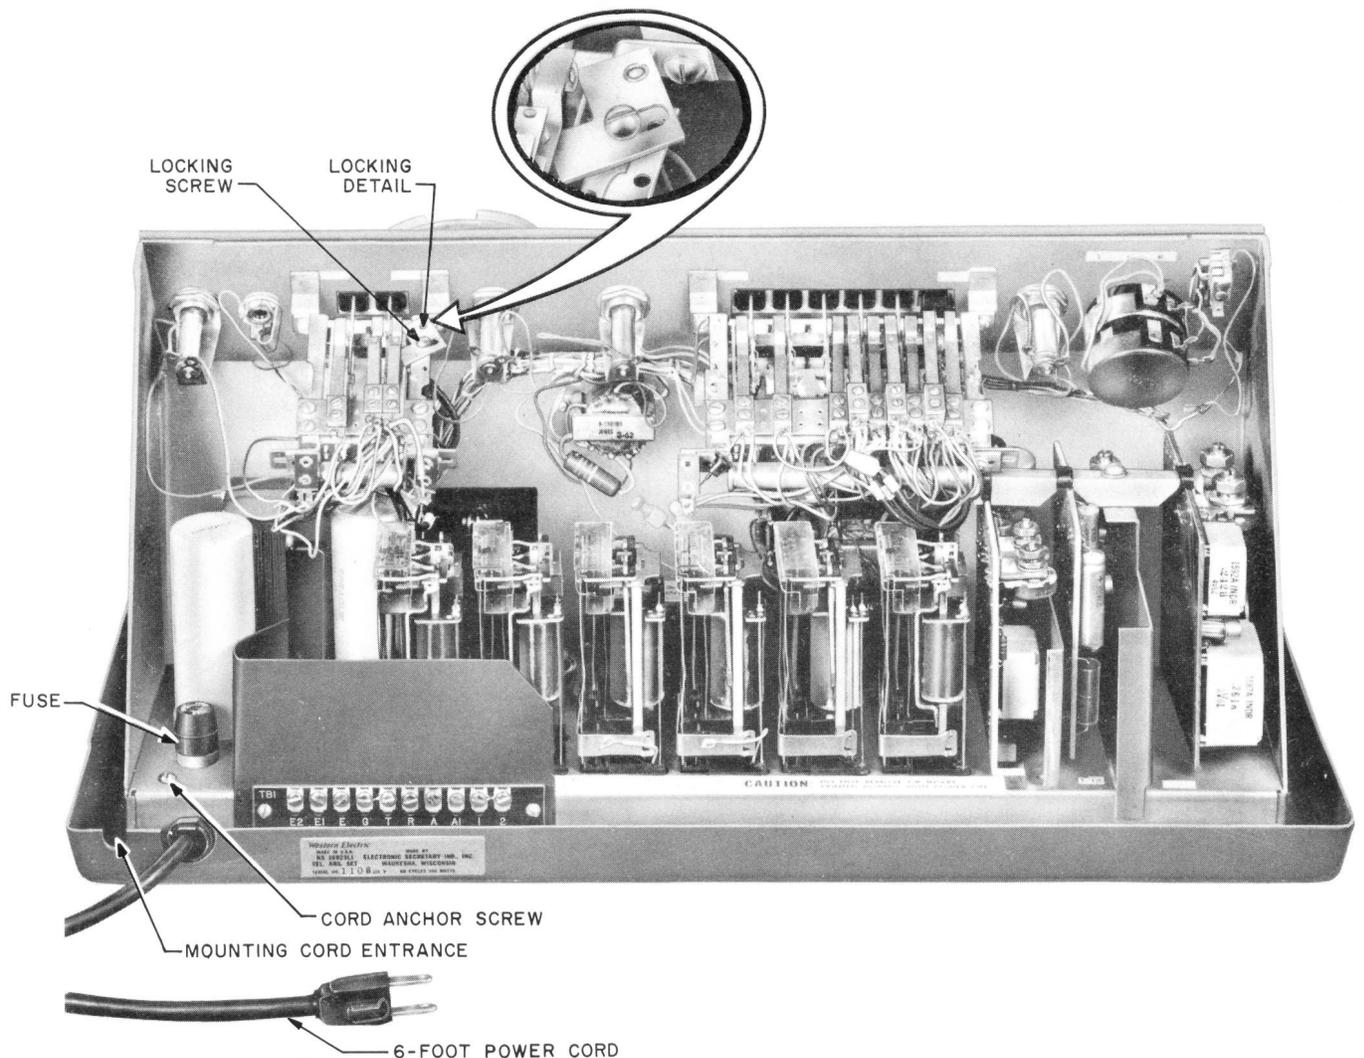

Fig. 3 — KS-16923, List 1 Telephone Answering Set, Rear Panel Removed
- 4.04** Insert mounting cord through slot provided in telephone answering set to left of power cord entrance. Anchor cord with suitable fastener using screw hole in front of fuse holder (Fig. 3).
- (1) Loosen locking screw (Fig. 3).
- (2) Slide locking detail under spring assembly and tighten locking screw (Fig. 3).